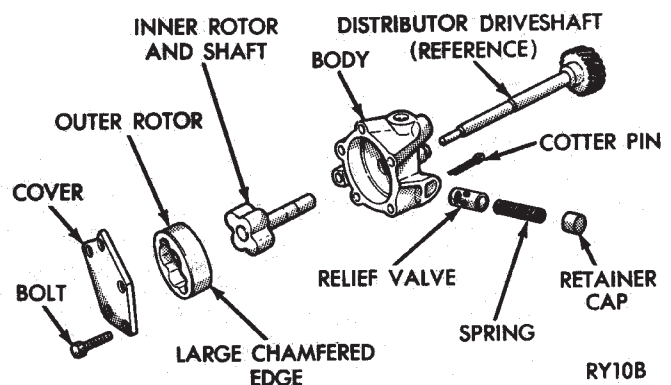

Fig. 63 Oil Pump
- (2) Remove oil pump cover (Fig. 63).
- (3) Remove pump outer rotor and inner rotor with shaft (Fig. 63).
- (4) Wash all parts in a suitable solvent and inspect carefully for damage or wear.